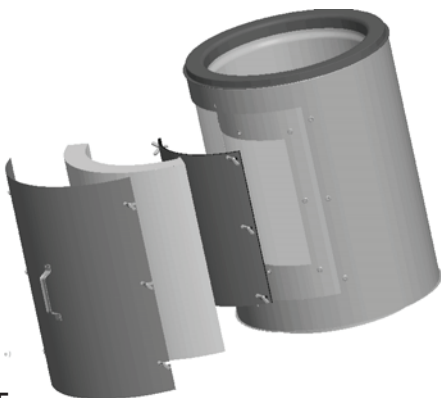

Figure 75
4. Unscrew the eight (8) wing screws and set it in a safe place (*see figure 75*).
5. Remove the Inner cover and set it in a safe place (*see figure 75*).